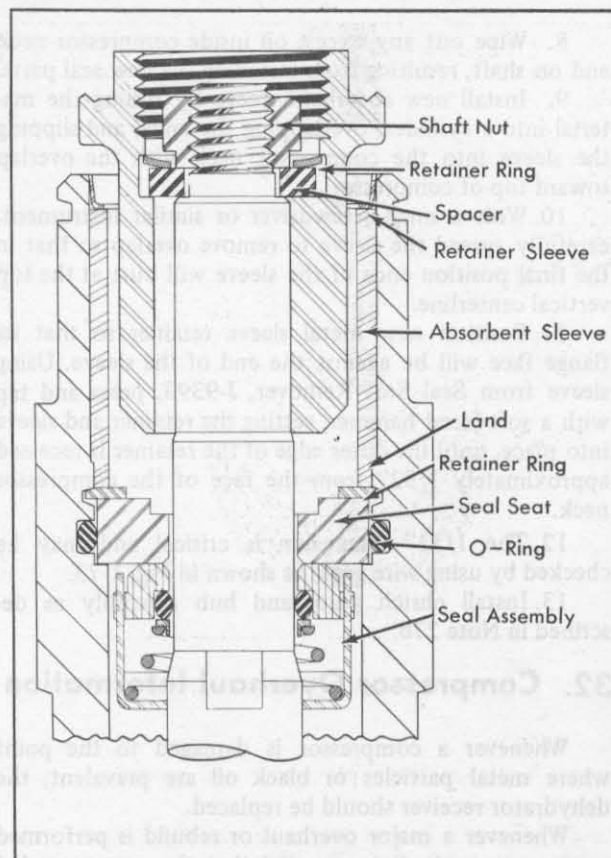

Fig. 1-72 Shaft Seal and Seat Installed
installed in bottom groove, Fig. 1-72. Top groove is for retainer ring.
6. Install new seal seat retainer ring, with flat face against the seal seat, using Snap Ring Pliers, J-5403 (#21). Sleeve from Seal Seat Remover and Installer, J-9393, may be used to press on the retainer ring so that it snaps into its groove, Fig. 1-72.